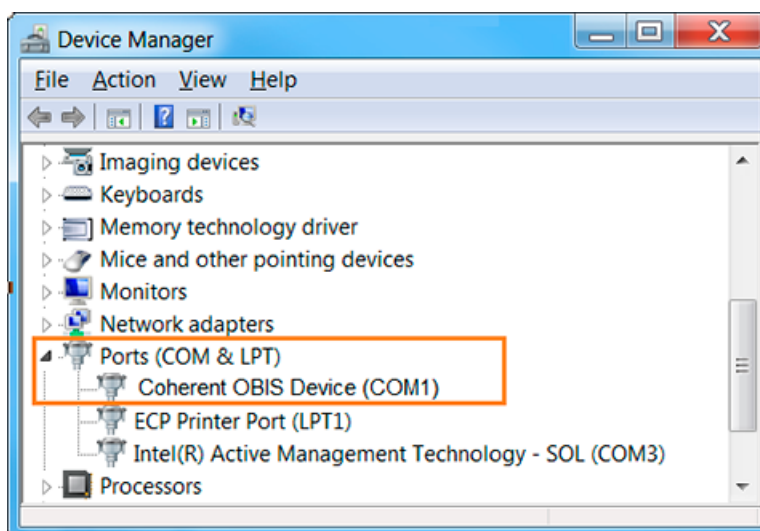

Figure 3-12. Device Manager Ports
- g.) Make sure that it shows the laser connected to the COM port and that there are no errors. Refer to the example in Figure 3-12.